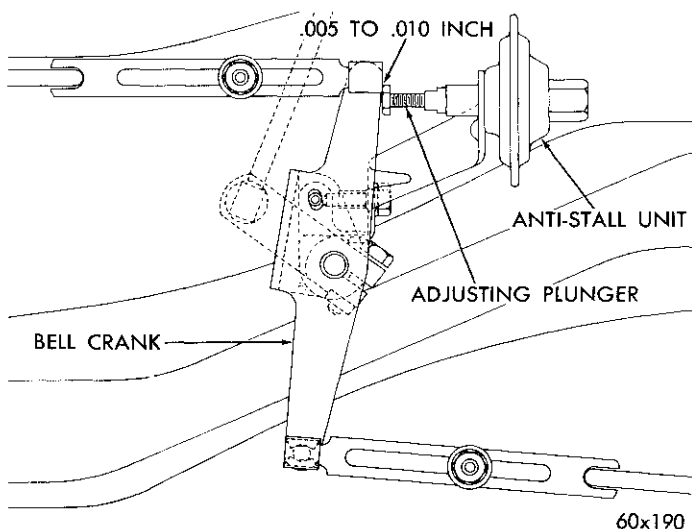

Fig. 47—Anti-Stall Adjustment
(1) To readjust the anti-stall device, it is necessary that the engine be at normal operating temperature and that the curb idle speed be 725 to 750 rpm and constant with the transmission in neutral (N) and the air conditioning compressor "ON" (if so equipped). (See Paragraph 33 "Adjusting the Ram Manifold AFB 2903S Series Carburetors" to obtain this idle speed.)
(3) With the transmission in Drive (D) and with the parking brake and the foot brakes applied, turn the anti-stall plunger toward the bellcrank until clearance of .010" has been obtained. (Refer to Fig. 47.)
(1) Remove the choke housing baffle plate.
(2) Remove the throttle return spring, so that the throttle can be set at one quarter open.
(3) Be sure the choke valve is wide open.
(4) Slide a .026 inch wire into the choke piston slot, so that the hook on the end enters the slot in the cylinder, as shown in Figure 47. (This gauge can be made by bending the .026 inch end of wire gauge Tool T109-189 to form the shape, as shown in Fig. 47.)
(5) Push on the choke valve, counter-clockwise, trapping the wire gauge between the piston and the cylinder slot (choke linkage hanging free).
(6) It should now be possible to insert a No. 32 drill between the choke valve and wall of the air horn. If an adjustment is necessary, bend the link that connects the choke shaft to the choke piston lever (at angle) until the correct clearance has been obtained.
(7) Place the choke baffle plate in position and install retaining screws. Tighten securely.
(8) Connect the throttle return spring.